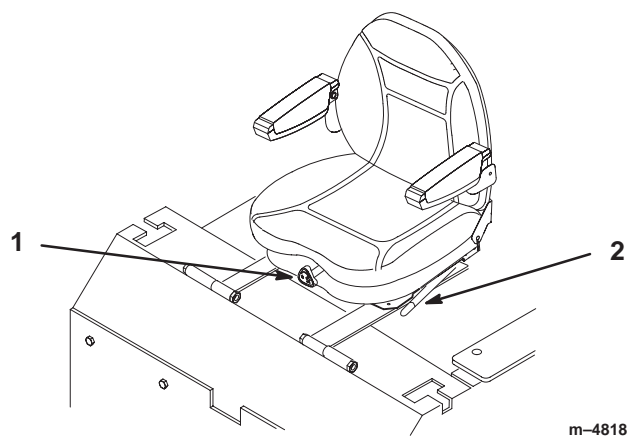

Figure 21
1. To adjust, move the lever sideways to unlock seat (Fig. 21).
1. To adjust, turn the knob in front either direction to provide the best comfort (Fig. 21).